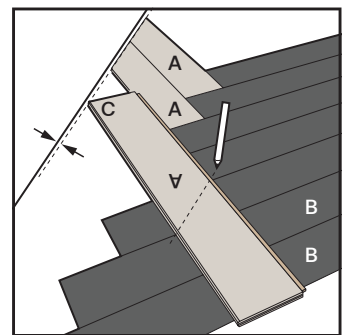

Figure 23
Step 11: Once all the rows of full planks have been installed, the final step in the herringbone floor installation is fitting the cut-off planks along the side walls of the room. Rotate the panel by 180° and position it on the floor in its intended location. The corner "C" should align with the expansion gap line. Draw a line parallel to the wall, at the point where the rotated panel intersects with the already installed panel (indicated by the position of the pencil in figure 23). Proceed to cut the panels accordingly.